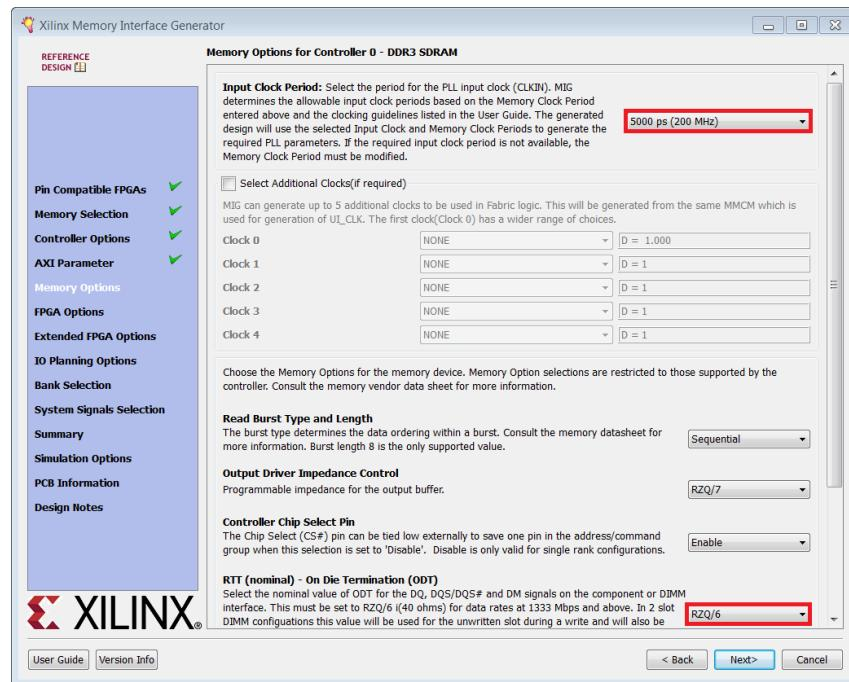

Figure 94:MIG Page: Memory Options
i. In the MIG Memory Options page (Figure 94):